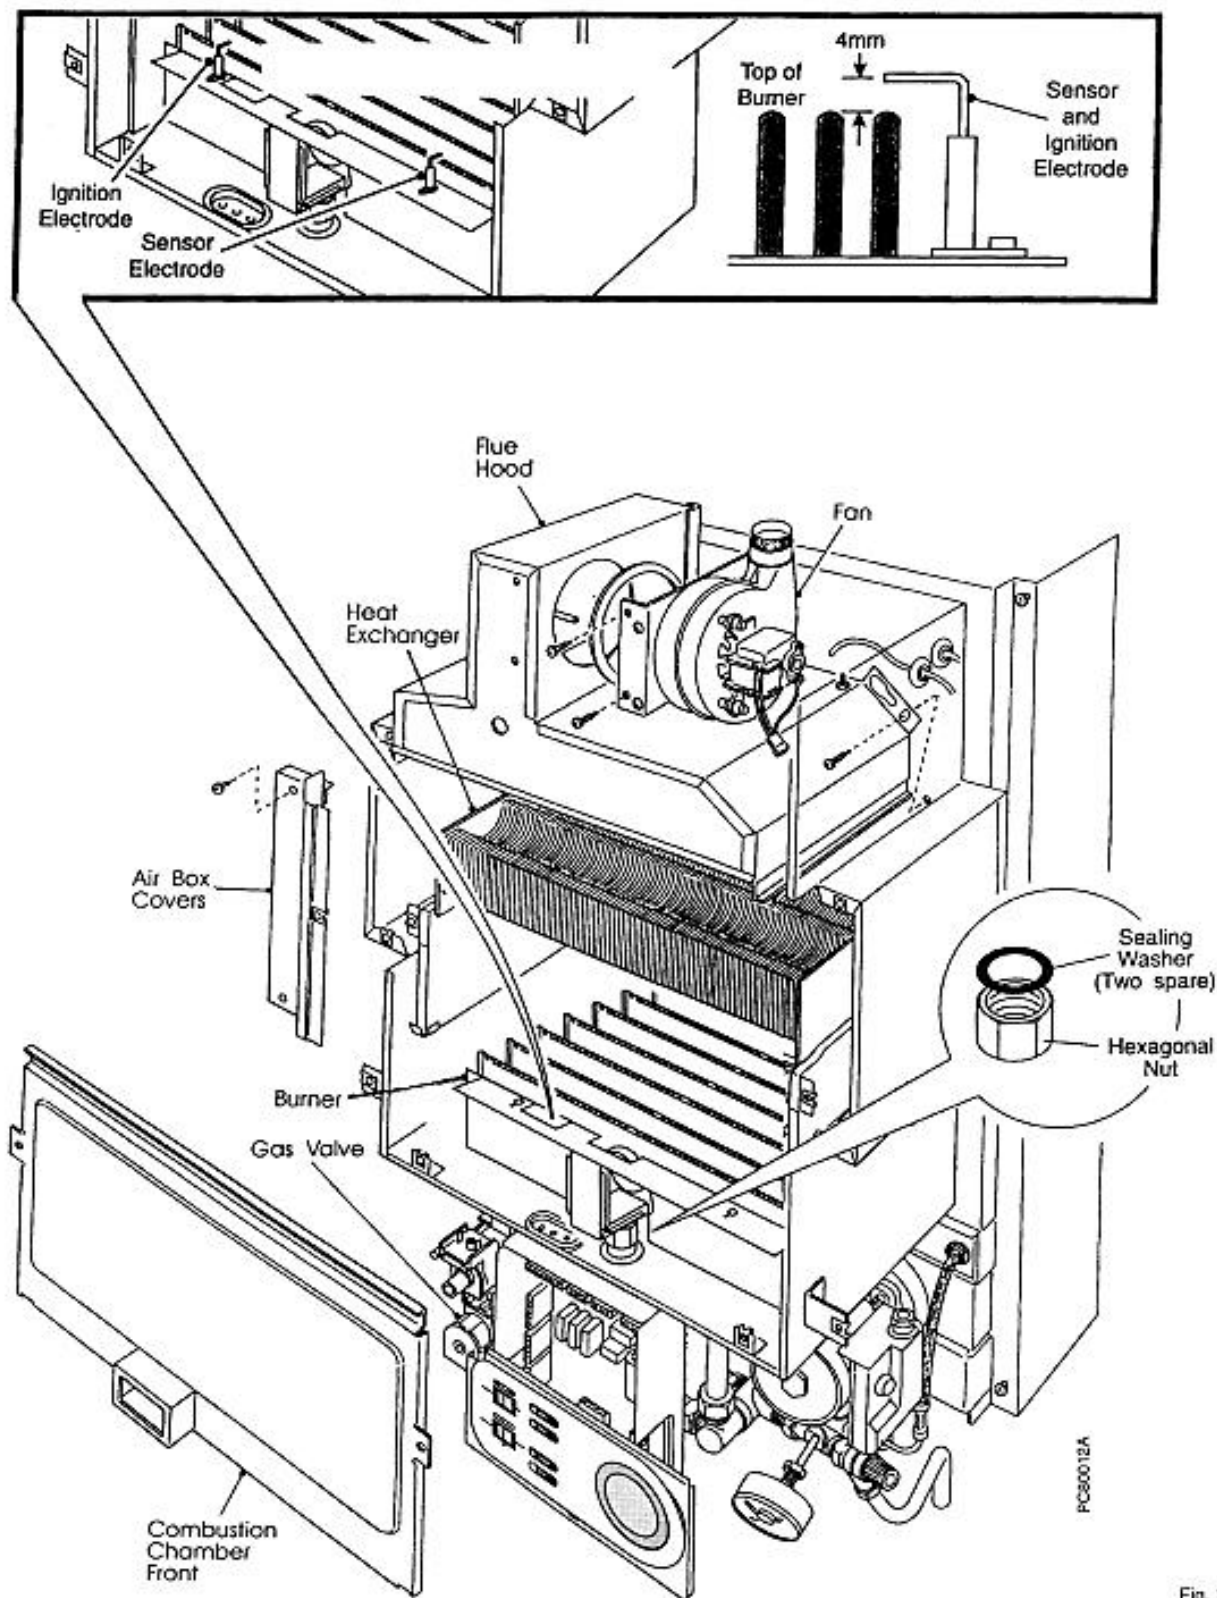

Fig. 14
4.7 To Inspect and Clean the Boiler - Fig. 14
Check the electrodes for damage or deterioration. Ensure that the spark gaps are correct to dimensions specified in Fig. 14. Clean or renew as necessary. Do not bend the electrodes as the insulating material may crack.
3. Fit new electrode and re-assemble in reverse order, checking the gap measures $4\text{mm} \pm 0.5\text{mm}$ (Fig. 14).
2. Remove the electrodes from the main burner and re-assemble onto the new main burner, check electrode gap is $4\text{mm} \pm 0.5$ Fig. 14).